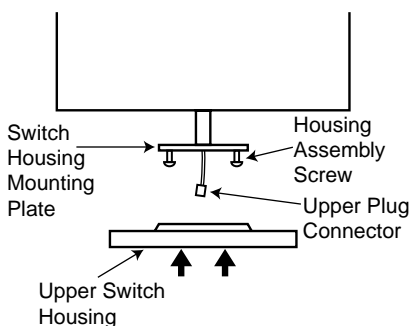

Figure 14
- A. Partially install two #6-32 x 3/8" housing assembly screws into the switch housing mounting plate as shown in Figure 14.
- B. Feed the upper plug connector through the center opening of the upper switch housing. See Figure 14.